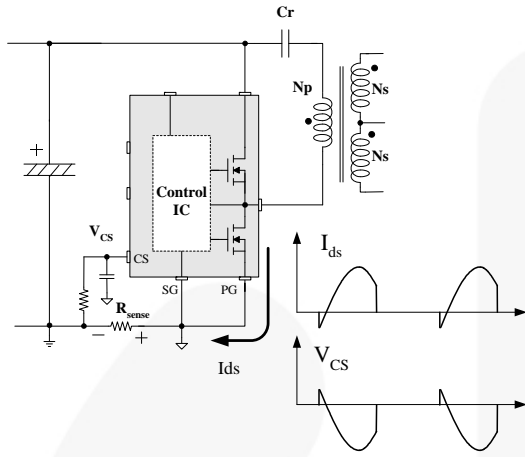
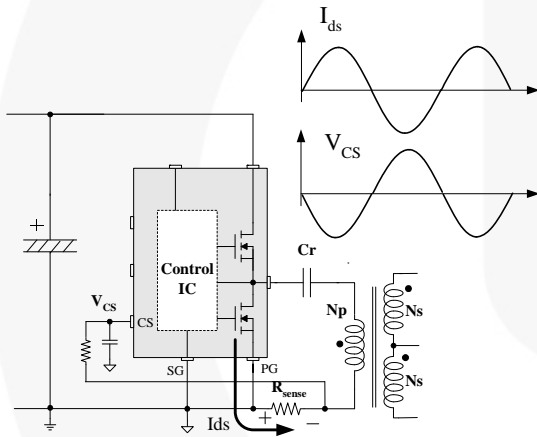

Figure 24. Half-Wave Sensing
Figure 25. Full-Wave Sensing
**Current Sensing Using Resistor:** FSFR2100 senses drain current as a negative voltage, as shown in Figure 24 and Figure 25. Half-wave sensing allows low power dissipation in the sensing resistor, while full-wave sensing has less switching noise in the sensing signal.